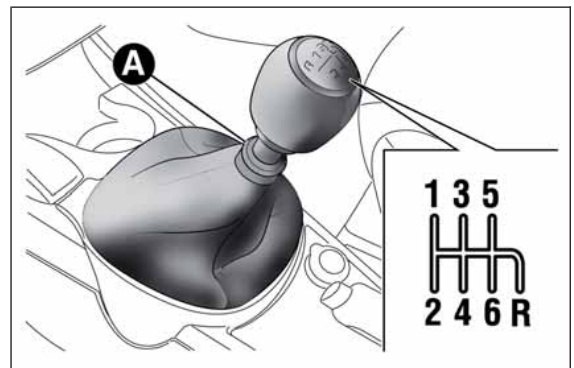
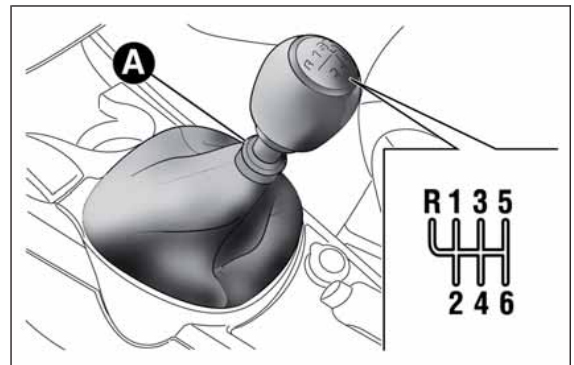
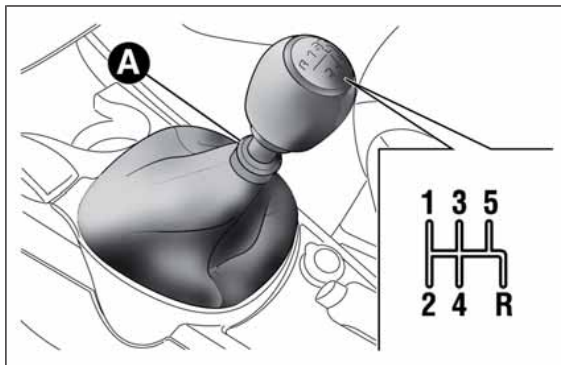

fig. 110
fig. 111
fig. 112
To engage the gears, fully depress the clutch pedal and put the gear lever into the desired position (the diagram for gear engagement is shown on the knob of the lever fig. 110, fig. 111, fig. 112).
- on 1.4 Turbo MultiAir 170 HP Quadrifoglio Verde and 1.6 JTD_M versions, move the lever to the left and then forwards fig. 111;
- on Turbo TwinAir, 1.4 Petrol, 1.4 Turbo MultiAir and 1.3 JTD_{M-2} versions, move the lever to the right and then backwards fig. 110 and fig. 112.